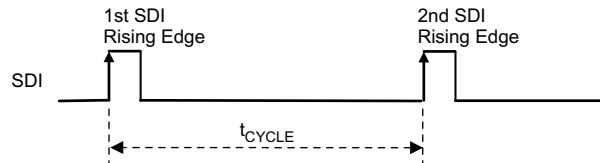
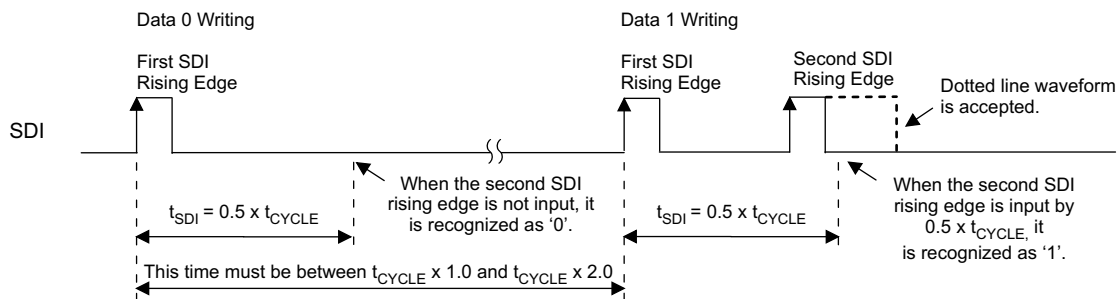

Figure 18. Data Transfer Rate (t_{CYCLE}) Measurement
Figure 19. Data '0' and '1' Write Operation
The TLC5973 measures the time between the first and second SDI rising edges either after the device is powered up or when the GS data latch sequence is executed (as described in the GS Data Latch Sequence \(GSLAT\) section) and the time is internally stored as t_{CYCLE} . t_{CYCLE} serves as a base time used to recognize one complete data write operation, a 48-bit data write operation, and a GS data write operation to the GS data latch. t_{CYCLE} can be set between $0.2 \mu\text{s}$ and $10 \mu\text{s}$ ($f_{\text{CLK(SDI)}} = 100 \text{ kHz}$ to 3000 kHz). In this sequence, two instances of data '0' are written to the LSB side of the 48-bit shift register. Figure 18 shows the t_{CYCLE} measurement timing.
When the second SDI rising edge is not input before 50% of t_{CYCLE} elapses from the first SDI rising edge input, the second rising edge is recognized as data '0'. When the second SDI rising edge is input before 50% of t_{CYCLE} elapses from the first SDI rising edge input, the second rising edge is recognized as data '1'. This write sequence must be repeated 46 times after the t_{CYCLE} measurement sequence in order to send the write command to the lower 10-bit (3AAh) and 48-bit GS data. Figure 19 shows the data '0' and '1' write timing.
2. Write the 48-bit data packet (MSB-first) for the first device using t_{CYCLE} and the data write sequences illustrated in Figure 18 and Figure 19. The first 12 bits of the 48-bit data packet are used as the write command. The write command must be 3AAh (001110101010b); otherwise, the 36-bit GS data in the 48-bit shift register are not copied to the 36-bit GS data latch.